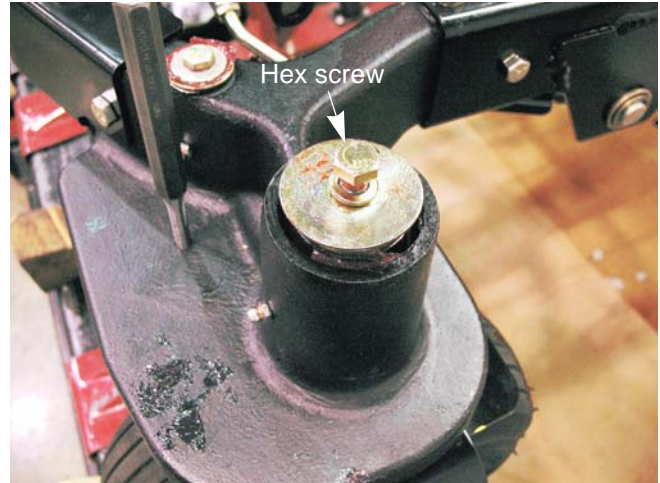

Figure 6.75
10. Install the hex screw with a lock washer and the fender washer. See Figure 6.75.